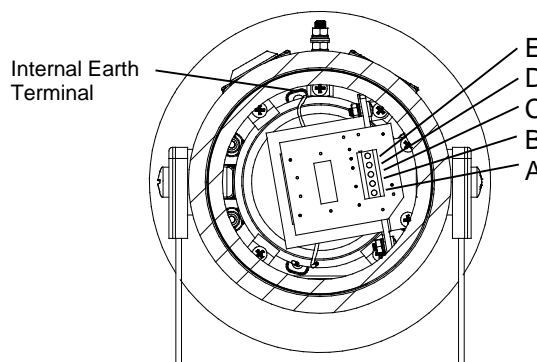
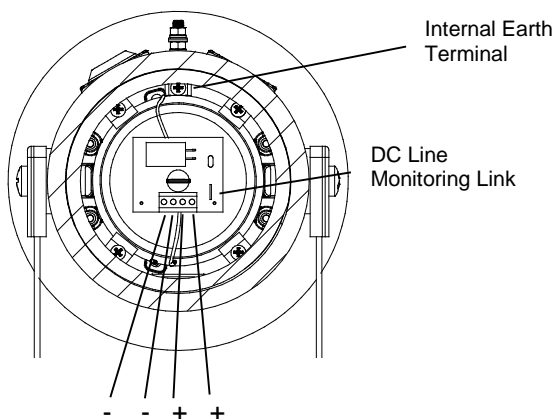

Fig. 3 Line in Terminals
Fig. 4 Low Impedance Terminals
- c. Fit an M20x1.5 suitably certified cable gland or 1/2" NPT conduit into the corresponding entry in the enclosure and connect the field wiring to the appropriate loudspeaker terminals as shown in section 6 / Fig 3 (70V Line In) or section 7 / Fig 4 (Low Impedance) of this manual. The
D1xL2 and D1xL1 8 ohm and 16 ohm low impedance loudspeakers have dual input terminals on the PCB assembly for input and output wiring. A cable of up to 4.0mm² can be connected to each terminal. If DC line monitoring is used cut the link on the board (see Fig. 4).
Internal earth connections should be made to the internal Earth terminal (see Fig. 3 and 4). It should be fitted to the internal earth point using a ring crimp terminal to secure the earth conductor.
On low impedance units the end of line resistor used must have a minimum resistance value of 2k ohms and a minimum wattage of 0.5 watts or a minimum resistance value of 500 ohms and a minimum wattage of 2 watts. On the low impedance units care must be taken with the polarity of the monitoring voltage. If an end of line resistor is fitted to a unit the links on the printed circuit boards of all loudspeakers in the line must be cut for the dc blocking capacitors to be in circuit in order to dc monitor the line (see Fig 4).